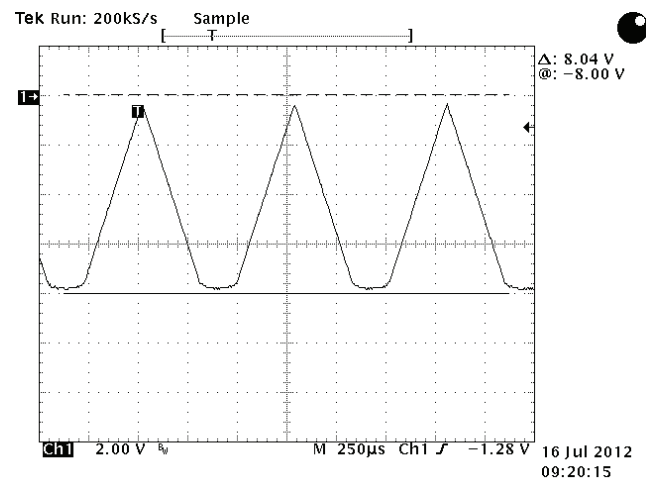

Figure 9. Soft Clamping Current Limit Behavior
**Figure 9** illustrates the behavior of the soft-clamp current limit. In this case the analog input voltage setpoint signal is a triangle wave, with the amplitude set so that the driver will attempt to overdrive the current limit.